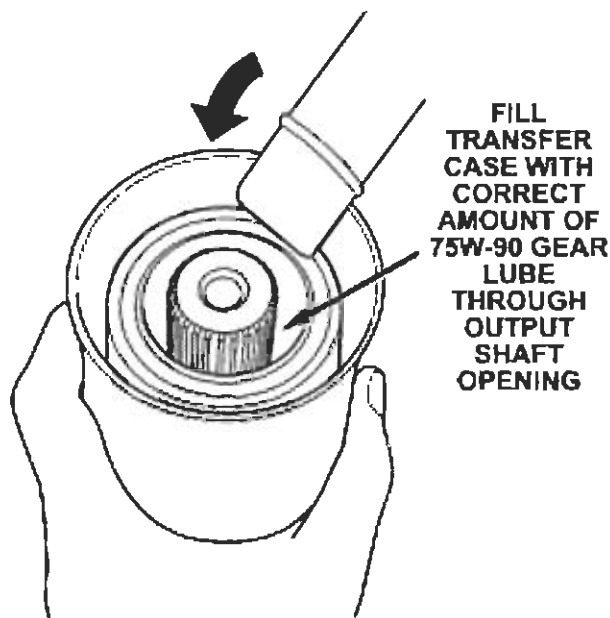

Figure 28
- Fill the transfer case through the output shaft opening with Mopar 75W-90/GL-5 Gear Lube (Mopar P/N 05010320AA) (Figure 28).